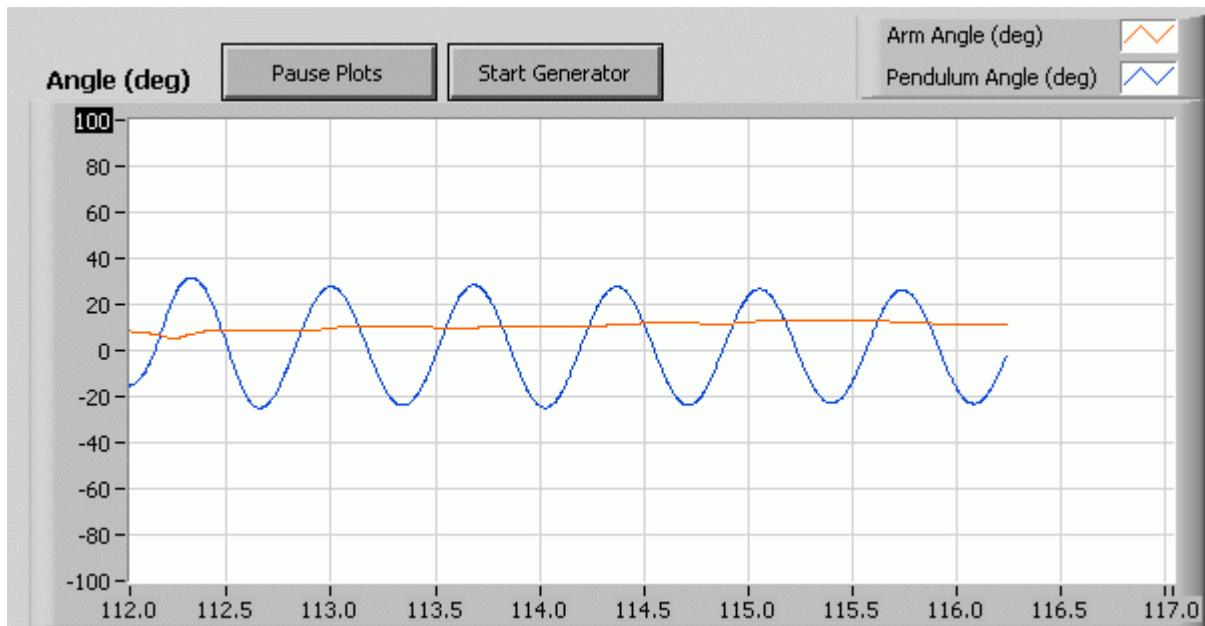

Figure 44: Changing scale of LabVIEW scope.
1. As illustrated in Figure 44, to decrease the positive range of the scope down to 40, double-click on '100' in the y-axis, type in '40', and press ENTER.